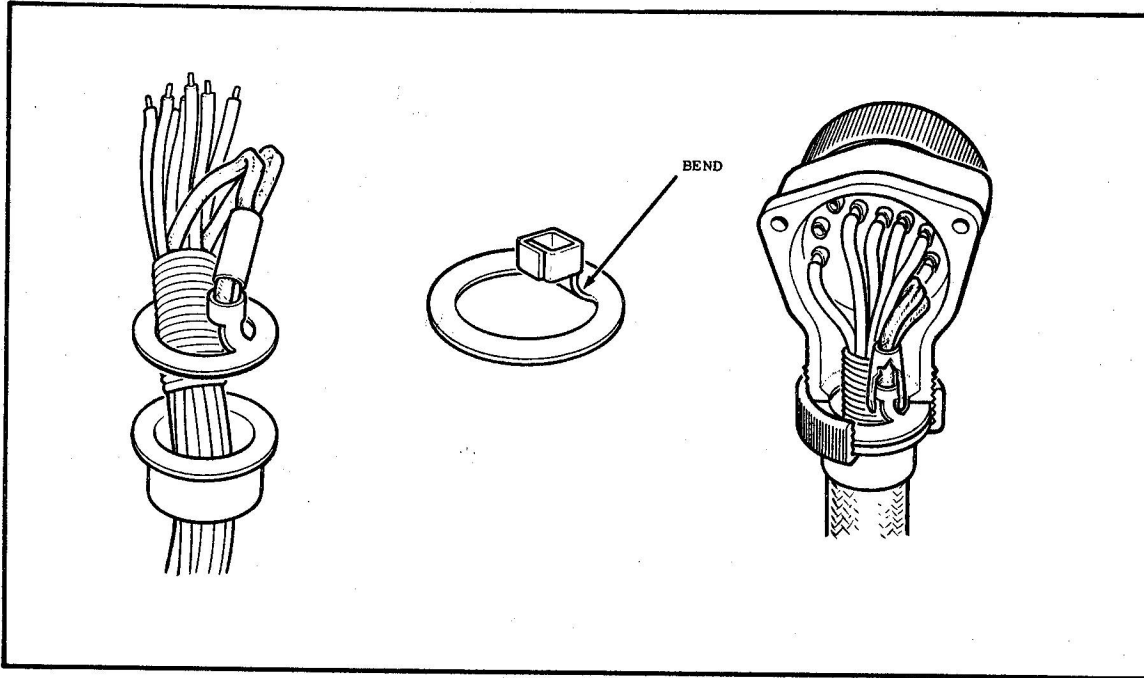

Figure 27 Cannon Bonding Ring Installation
- (c) Bend tongue of bonding ring into position for attaching pigtails as shown in Figure 27. Dotted portion indicates how legs of tongue are bent around pigtails before soldering. All excess lengths of tongue may be cut away.
- (e) Assemble as shown in Figure 27. Soft solder the tongue and pigtails.
- (f) Slip plastic tube (Item 8) over soldered joint and tighten flexible conduit nut to complete assembly. During assembly, do not allow the ring to turn in relationship to the plug. Cutaway of 90° Type K Connector is shown as finished assembly in Figure 27.